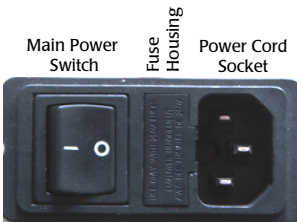

Fig. 26—Unplug the power cord to access the fuse housing release.
1. Turn the main power switch off (I).
2. Unplug power cord from power cord socket on the back of the unit (Fig. 26).